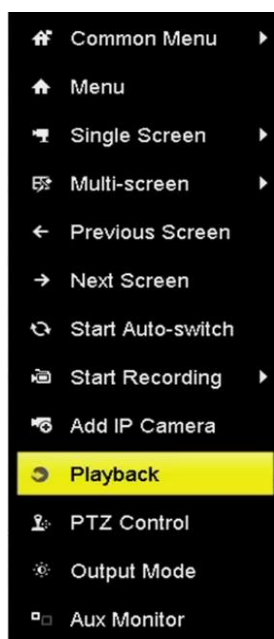

Figure 6-2 Right-click Menu under Live View
Step 2 Right click a channel in live view mode and select Playback from the menu, as shown in Figure 6-2.